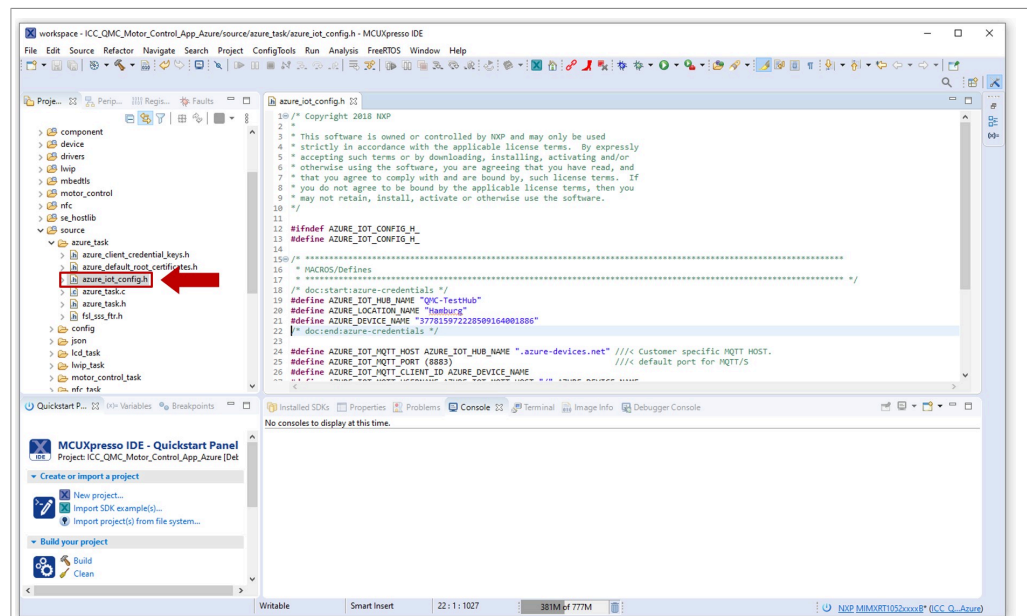

Figure 69. Find `azure_iot_config.h` file
1. Go to the project explorer and open the `azure_iot_config.h`, which can be found in `source\azure_task\` folder as shown in Figure 69: